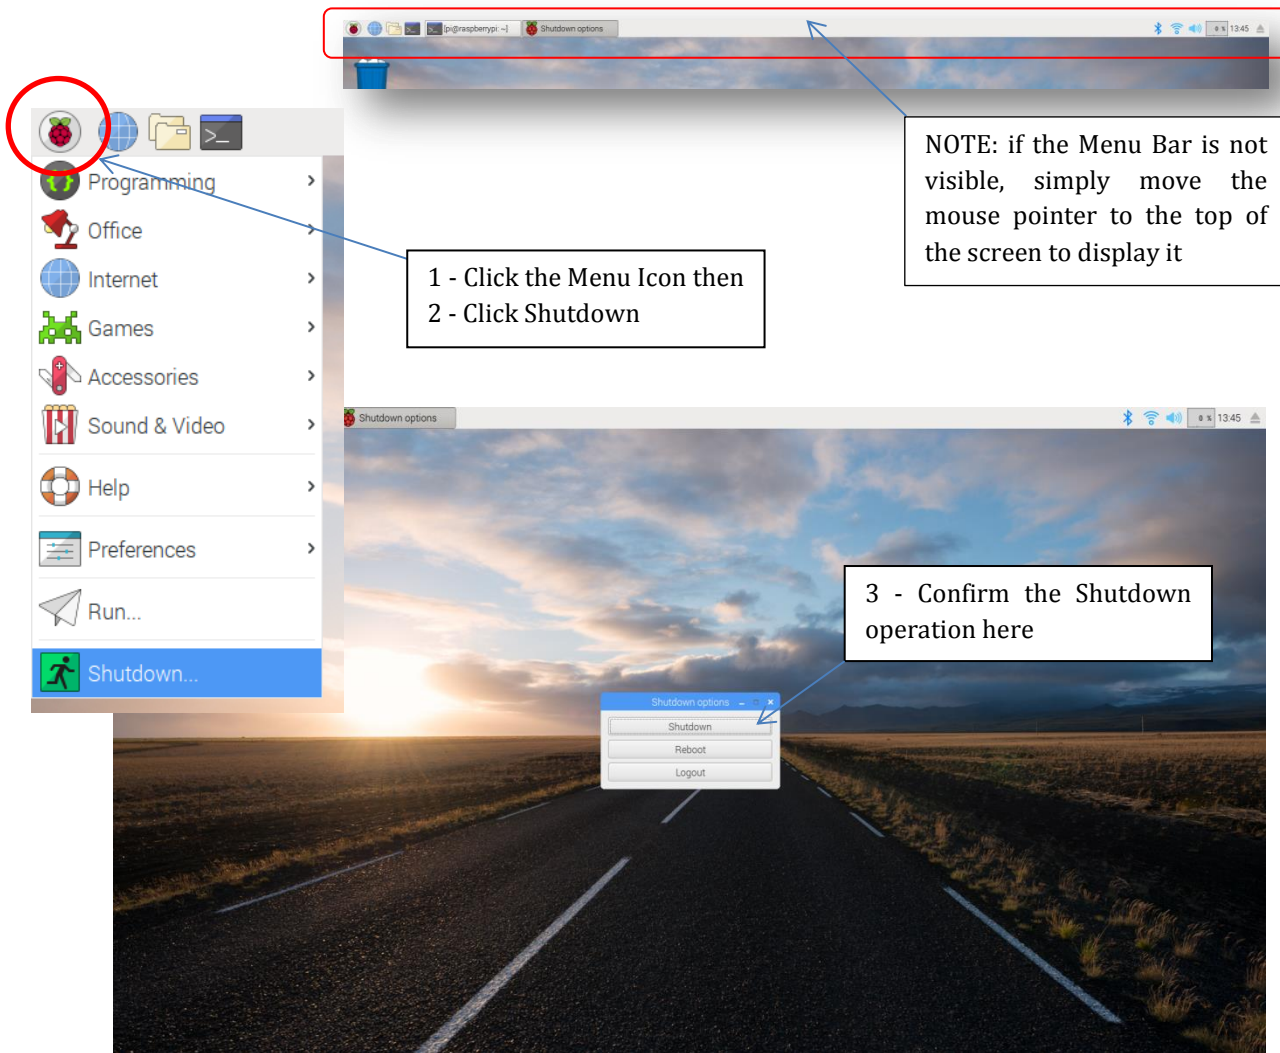

Figure 11 - Shutdown Base Station
- 4) The **“Shutdown options”** dialog window will be displayed (see Figure 11 above)